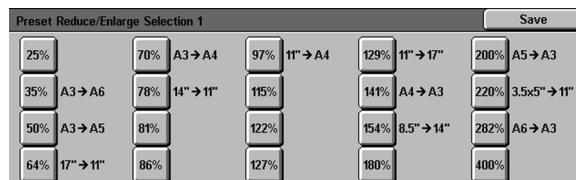

Figure 51: Preset Reduce/Enlarge Selection screen
- If you selected a Reduce/Enlarge Preset option, touch the desired reduction/enlargement percentage button on the Preset Reduce/Enlarge Preset screen (Figure 51).